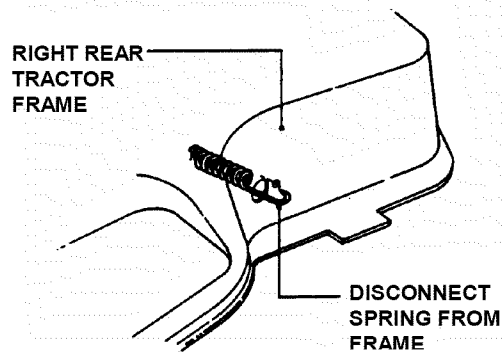

FIGURE 4.32
3. Disconnect traction belt idler pulley spring from tractor frame. See Figure 4.32.